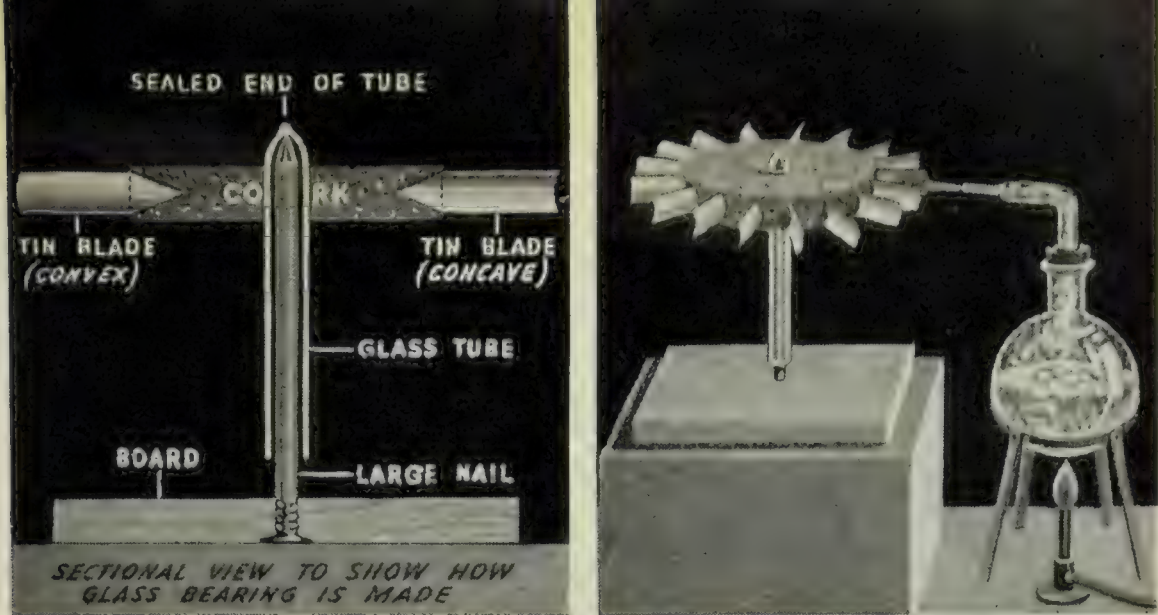

FIG. 354. How to make a model steam turbine
*Experiment 79. HOW DOES A STEAM TURBINE WORK?* Make a model steam turbine as shown in Figure 354. A large cork or cylindrical piece of wood can be used for the wheel. Cut the blades from a tin can and push them into knife cuts in the rim of the wheel. When the wheel is ready and turns very easily, heat water in the flask to make steam. *Be Careful. Very high pressure in the flask may blow the stopper out and scald someone with the steam and hot water.* Avoid this danger by pressing the stopper in only lightly and using a low flame after the water begins to boil. If your wheel is properly made, the steam from the nozzle should make it spin rapidly.